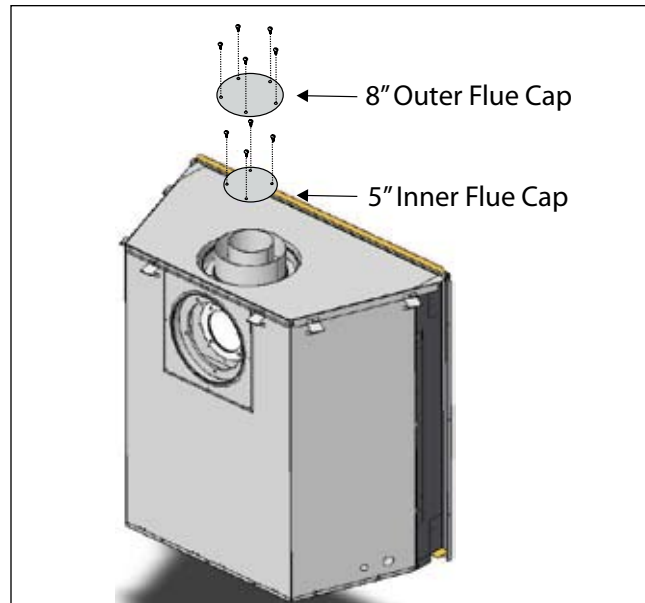

Figure 8a. Flue cap installation for Rear Vented fireplace.
2. Install the 7" or 8" outer flue cap on the rear flue outlet, and secure it with five screws, as shown in figure 8a.
1. Install the 4" or 5" inner flue cap on the top flue outlet and secure the cap in place with five screws, as shown in figure 8a.
2. Install the 7" or 8" outer flue cap on the top flue outlet, and secure it with five screws, as shown in figure 8a.